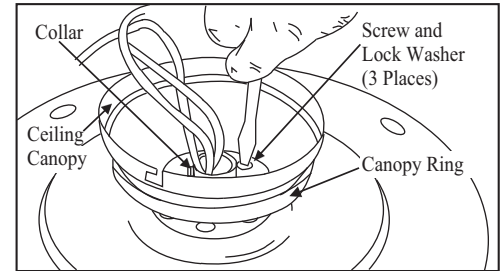

Figure 10
5. Route the wires exiting the top of the fan motor through the canopy ring (make sure the slot openings are on top), then proceed to place the ceiling canopy over the collar at the top of the motor. (Figure 10)
6. Align the mounting holes with the holes in the motor and fasten using the screws and lock washers removed in step 4. (Fig. 10)